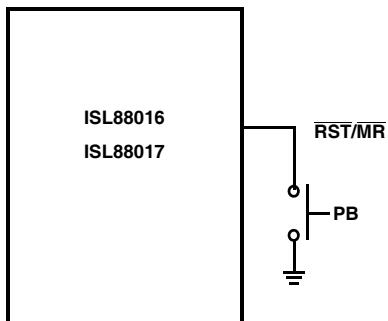

FIGURE 3. CONNECTING A MANUAL RESET PUSH-BUTTON
The manual reset input (MR) allows the user to trigger a reset by using a push-button switch. The MR input is an active low debounced input. By connecting a push-button directly from MR to ground, the designer adds manual system reset capability (see Figure 3). Reset is asserted if the MR pin is pulled low to less than 100mV for 10µs or longer while the push-button is closed. After MR is released, the reset outputs remain asserted for t_{POR} (200ms) and then released.